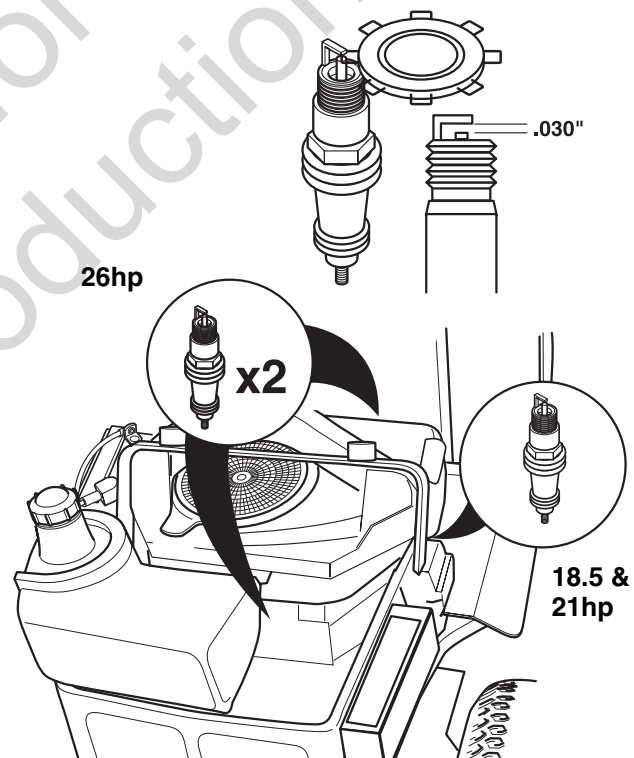

Figure 43. Spark Plug Gapping
4. Check the spark plug gap. It should be .030" (see Figure 43).